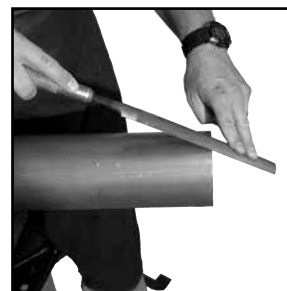

Figure 4: Deburr outside diameter using a half-round file
3. Deburr the tube outside diameter using a half-round file to prevent damage to the EPDM seal (Figure 4).